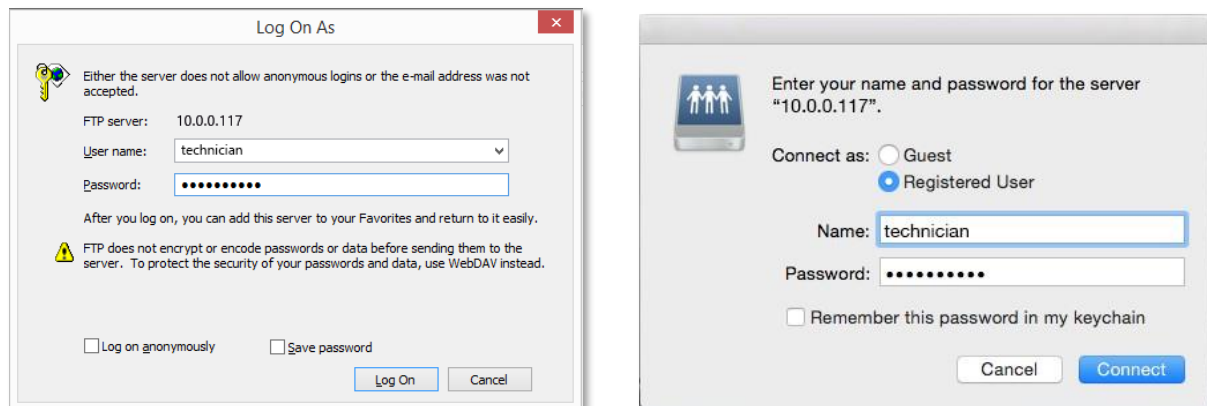

Figure 54: The FTP log on window using File Explorer (left) or Finder (right).
2. Press **Enter**. The FTP log on window will appear (**Figure 54**).